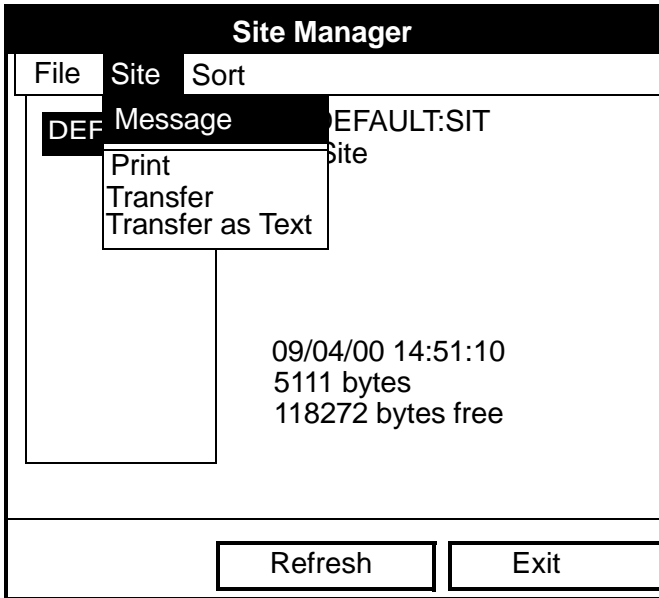

Figure 48: Site Menu in the Site Manager
1. Press [MENU] to enter the File Menu. Then press the [▶] arrow key once to scroll from the File Menu to the Site Menu. Press [ENTER]. The screen appears similar to Figure 48 below.